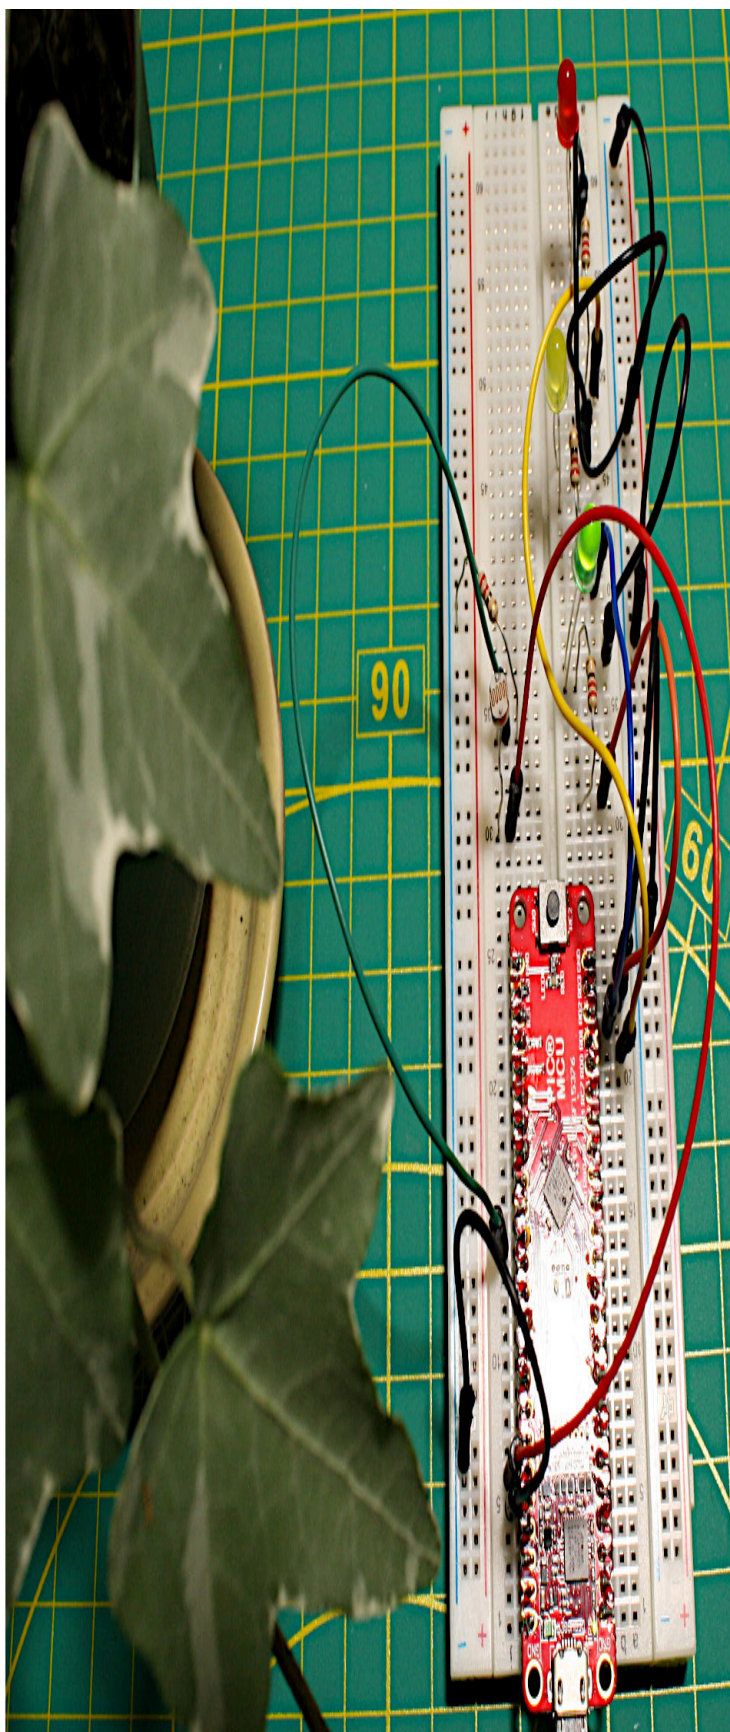

Figure 4.7 – Connecting the photoresistor and the LEDs to the Curiosity Nano
*Figure 4.7* shows how the photoresistor and the LEDs are connected to the Curiosity Nano's ports. The circuit shown in *Figure 4.7* is based on the Fritzing diagram shown in *Figure 4.6*.
As you can see in *Figure 4.7*, the photoresistor is connected to the Curiosity Nano's port RA0. The green LED is turning on in the figure, meaning that the amount of light that the plant is receiving should be OK.
You can use the same code used for the photoresistor used in *Figure 4.6* and *Figure 4.7* to get analog values from the photoresistor sensor module shown in *Figure 4.9*. You may need to adjust the values in the code if necessary. You can experiment with a number of environments (for example, using the sensor in a living room or a bedroom) to see the analog values obtained by the microcontroller board from the sensor change and thus adjust the code accordingly.